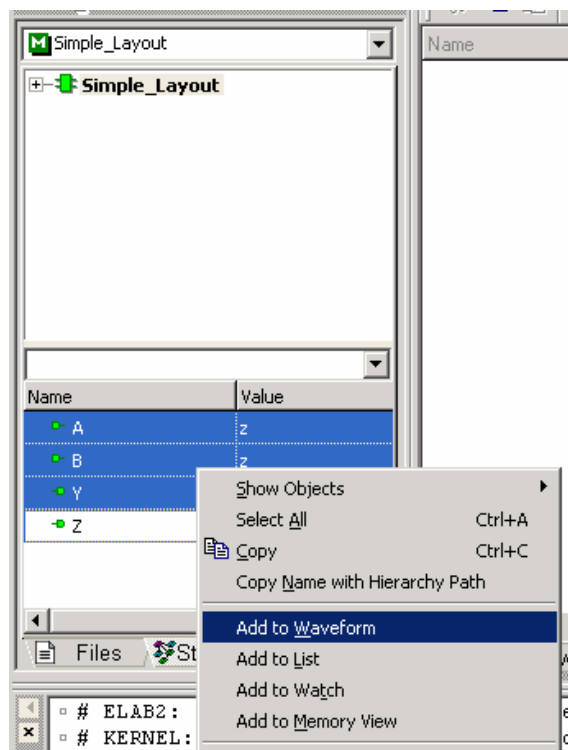

Figure 27
9. Add the signals to the waveform by dragging the signals one by one into the left side of the waveform. A faster method of adding signals to the waveform is to select the signals using the Shift or Ctrl keys. Now you may drag them as described above into the waveform. You can also right-click on a selected signal, and click the Add to waveform option in the pop-up menu as shown in Figure 27.